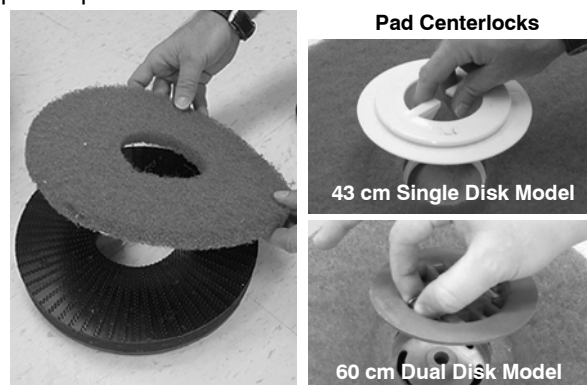

FIG. 7
3. Attach the pad to the pad driver before installing the driver. Make sure the pad is centered on the driver (Figure 7). The 43 cm single disk and 60 cm dual disk models require pad centerlocks to hold pad in place.